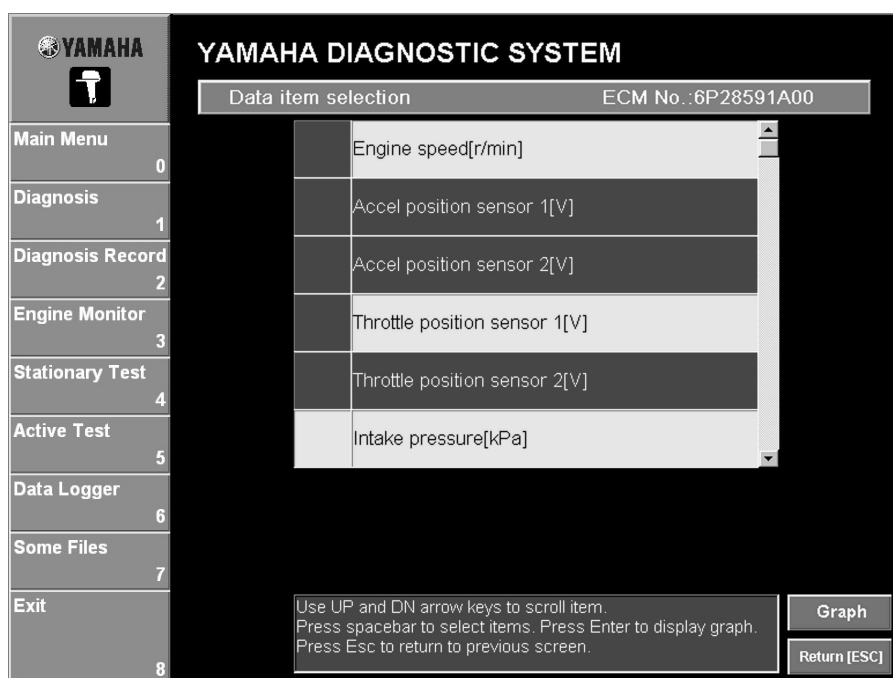

Fig. 128
5. Click the **Graph** button. (See fig. 128.) The window is displayed. For information on the buttons that appear below the graph, refer to “Graph window controls (keys and buttons)”.